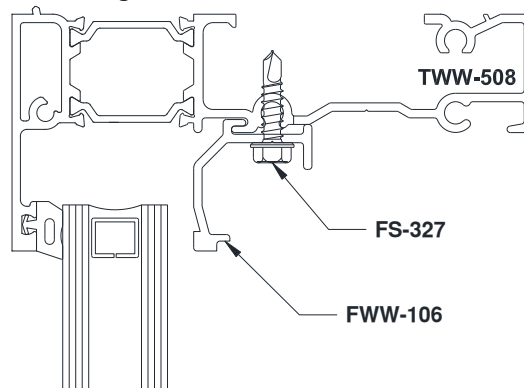

Figure 53: FWW-106 Glass Stop Installation
16.3.1 Install **FWW-106** Glass Stop with **FS-327** fasteners as shown in *Figure 53*. Apply sealant to the Verticals where the front face of the glass stop will join and place the stop into position. Tool the sealant into the corners between the Glass Stop and the Vertical to ensure a watertight seal. Clean excess sealant.